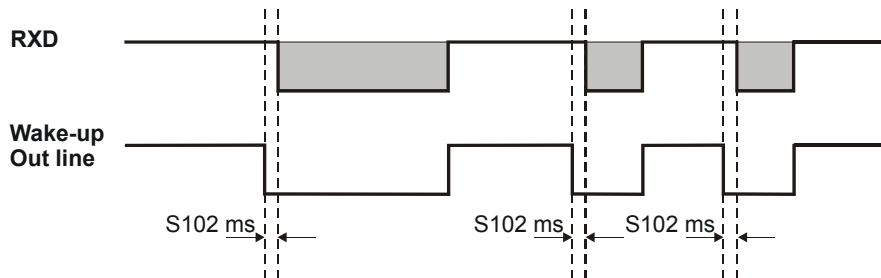

Figure 10. Waking Up the DTE when the g20 wants to Send Data
- The g20 will send the Wake-up Out line #ms to low, as indicated by S102 in Figure 10.